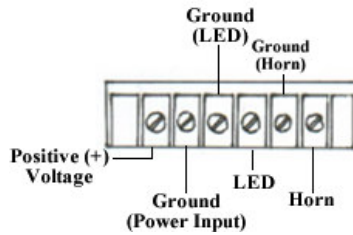

Figure 1
- Connect the siren/horn to the right most pair of terminals on the control box, following the polarity indicated in Figure 1.
- Connect the LED indicator to the center pair of terminals on the control box, following the polarity indicated in Figure 1.
- Connect a 12 volt DC power source to the left most pair of terminals on the control box, following the polarity indicated in Figure 1.